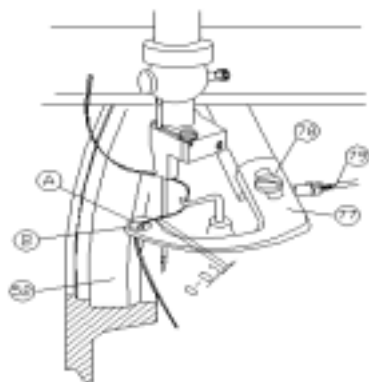
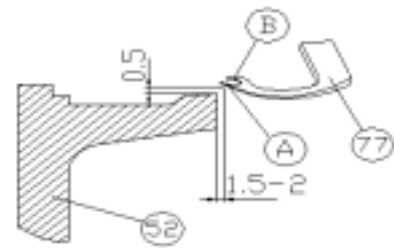
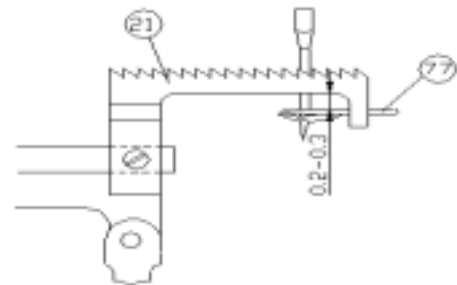

FIG. 40
FIG. 41
FIG. 42
The thread loader (77) serves to load the thread into the needle. The rear part (A) of the tip, when in its position closest to the needle, should graze the needle without bending it. The position can be adjusted by moving the thread loader on its support after loosening the two screws (78). FIG.40. When the thread loader is at the end of its traverse to the right, the distance between the rear part (A) and the right-hand edge of the thread-loading wheel (52) should be 1.5 - 2 mm. FIG. 41.
The correct distance is obtained by adjusting the tie rod (79) between the two joints. The height is adjusted by bending the thread loader. FIG. 41. Check that there is a gap of about 0.2-0.3mm between the thread loader and the lower part of the feed dog. FIG. 42.